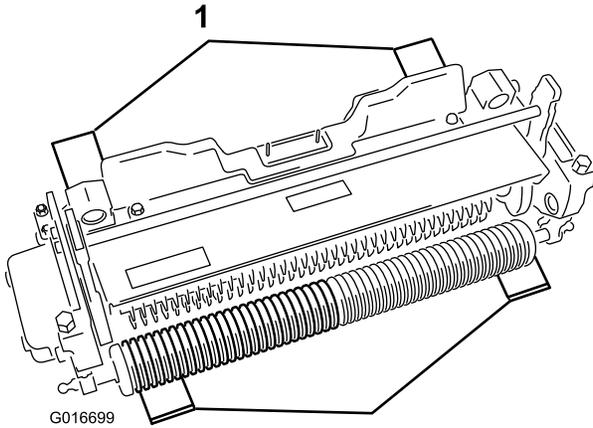

Figure 4
2. Place 4 gauge bars, set to the desired depth of blade penetration below ground, under the front roller and rear roller of the dethatching unit (Figure 4).